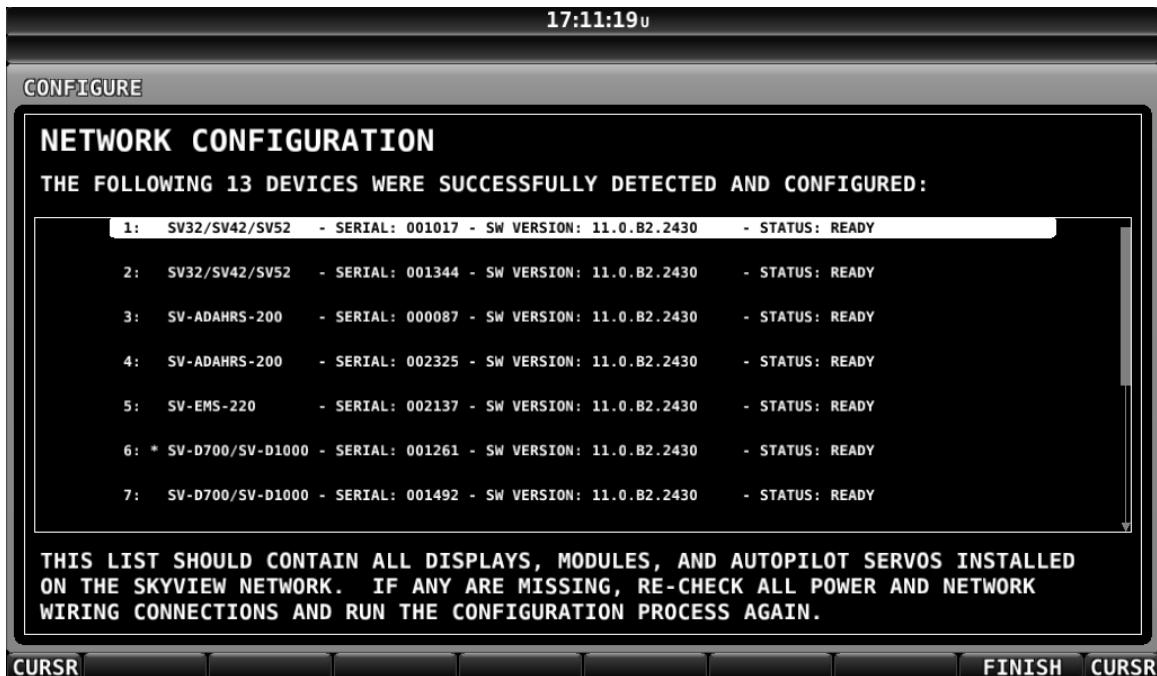

Figure 42 – Successful SkyView Network Configuration Screen
3. *Press DETECT. A successful network configuration yields the screen in Figure 42 (depending on the units installed, your SkyView system's network devices will look different and display different Software versions).*